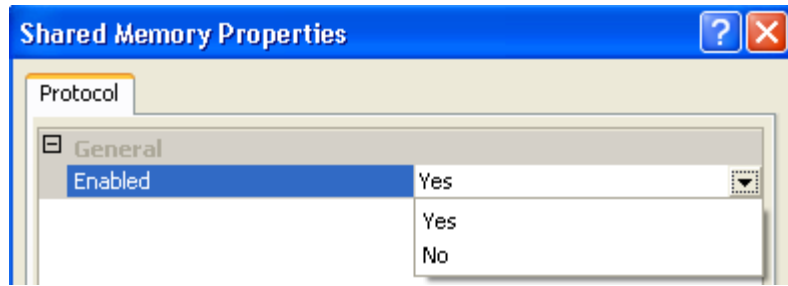

Figure III-4. Protocol Properties Window
- c. Choose **Yes** next to “Enabled” and click **OK** (Figure III-4).